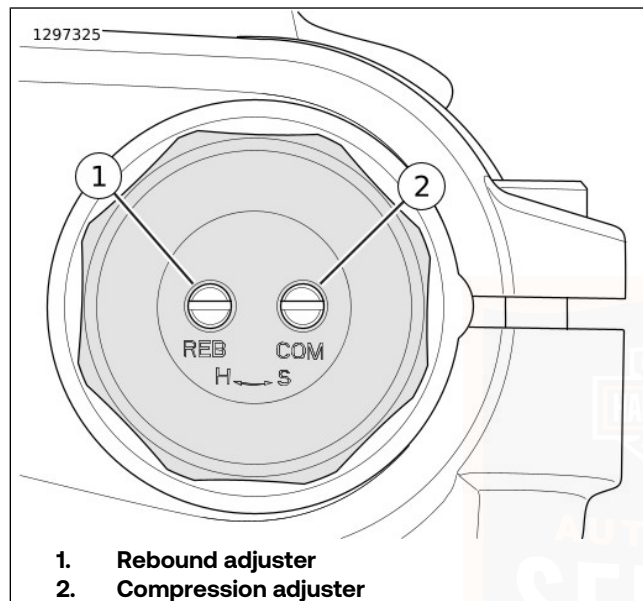

Figure 22. Rebound and Compression Damping Adjustment
The rebound and compression screws (1 and 2) are located on the right fork tube. See Figure 22.
1. See Figure 22. Turn rebound adjuster (1) screw clockwise in the H (hard) direction until it stops. This is the maximum rebound damping setting.
2. Turn rebound adjuster (1) counter-clockwise in the S (soft) direction the recommended number of turns. Table 29
1. See Figure 22. Turn compression adjuster (2) clockwise in the H (hard) direction until it stops. This is the maximum compression damping setting.
2. Turn compression adjuster (2) counterclockwise in the S (soft) direction the recommended number of turns. Table 29